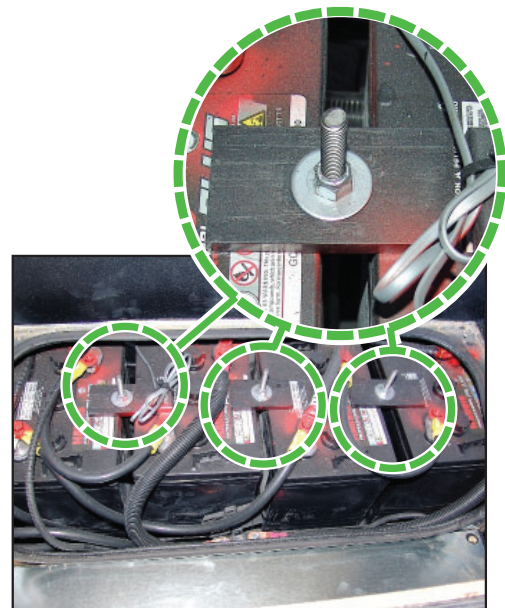

Figure 2 - Correct Battery Hold-Down Installation With Plastic Spacer Brackets Shown
- If the battery hold-down mounting hardware consists of L-shaped bolts, rectangular **plastic** spacer brackets, washers, and locking nuts (as shown in Figure 2), the installation is correct and no further action is required.